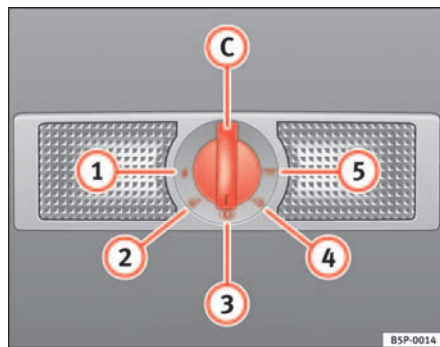

Fig. 77 Interior light
- In switch position **1** ⇒ fig. 77, the interior and reading lights are switched off.